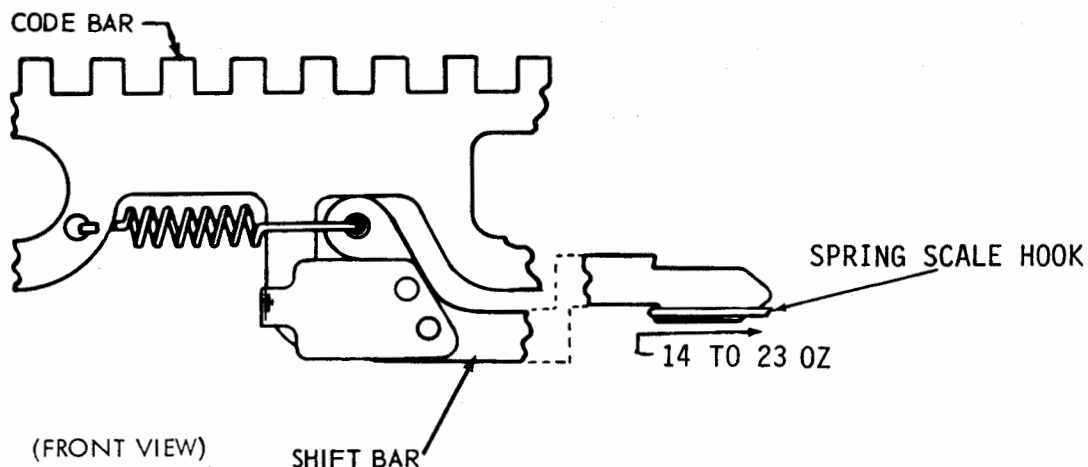

Figure 6-3. Code Bar Yield Spring
(3) Code Bar Yield Spring. Adjust code bar yield spring tension as follows:
- (a) Refer to figure 6-3.